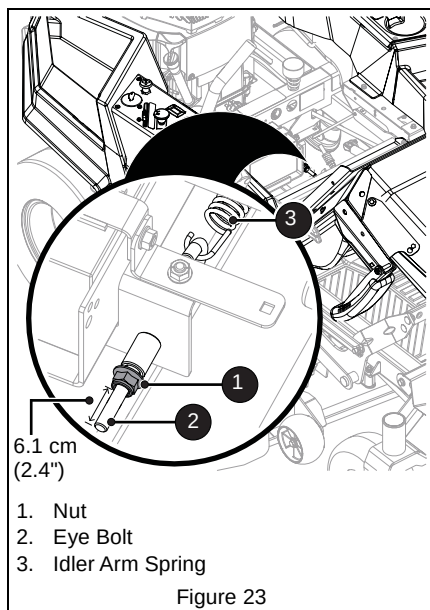

Figure 23
3. Loosen nut on eye bolt and disconnect idler arm spring. See Figure 23.
5. Reconnect idler arm spring to eye bolt and secure bolt to unit with nut. Tighten until the nut is 6.1 cm (2.4") from the threaded end of the eye bolt. See Figure 23.